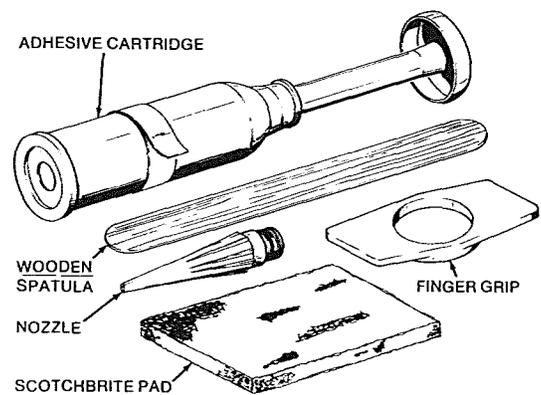

Figure 23. KB-S1 Vault Closure Sealing Kit
7.02 The following materials are included in the #KB-S1 Vault Closure Sealing Kit. (Figure 23)